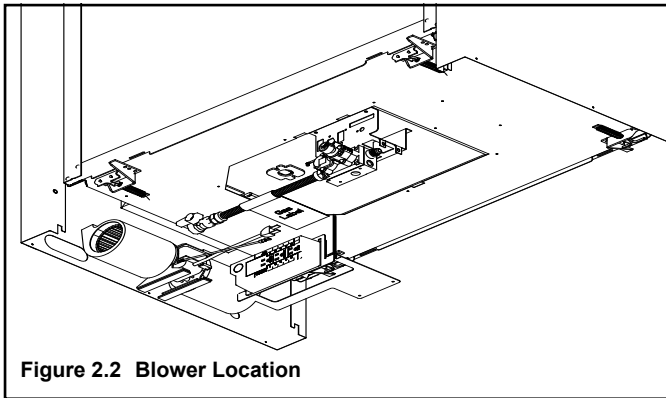

Figure 2.2 Blower Location
1. Place blower in appliance as shown in Figure 2.2.